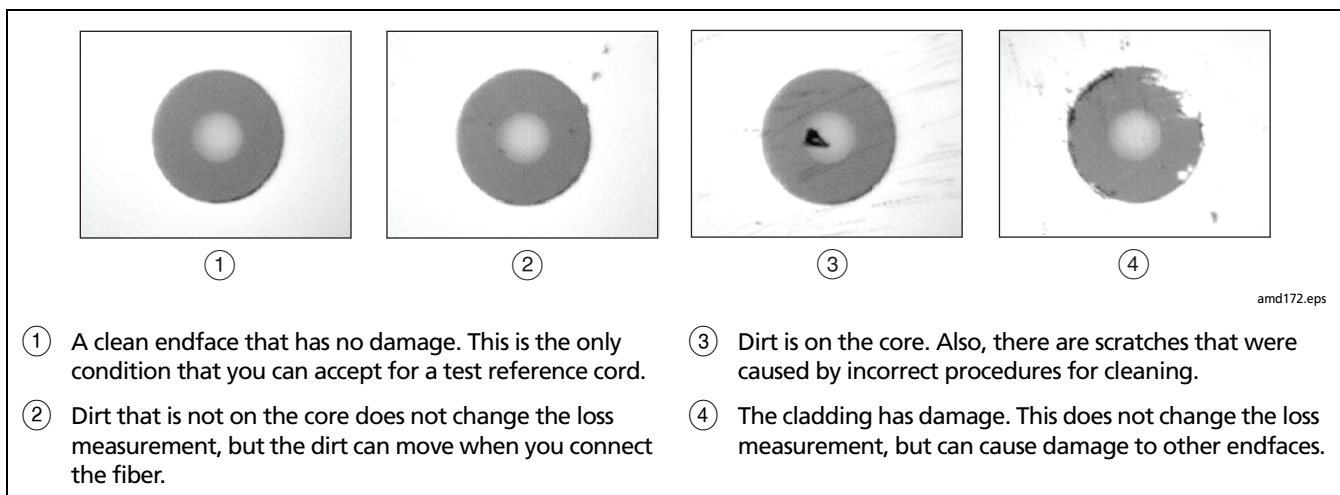

Figure A-2. Examples of Fiber Endfaces
**To do this procedure, you must have a fiber microscope. You cannot be sure that your cords are good unless you can examine the endfaces on the connectors. An endface that is dirty or has damage can give a good loss measurement, but can cause problems later. See Figure A-2.**
2-2 After you clean an endface, use a fiber microscope to examine the endface. Figure A-2 shows examples of what you can see with a fiber microscope.